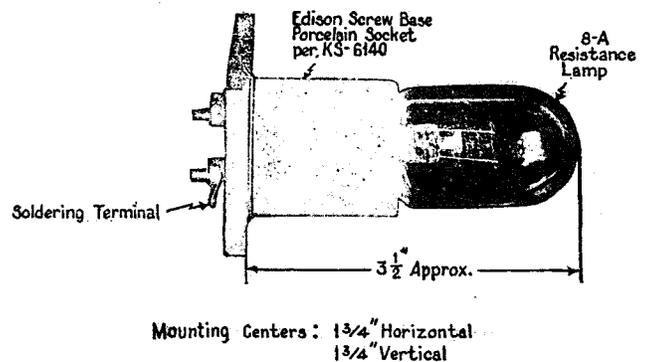

Fig. 1.
- 2.3 The 8-A resistance lamp is of the tubular type and it mounts in an Edison screw-base porcelain socket as shown in Fig. 1. The lamp has a tungsten filament with the current-resistance characteristics shown in Drawing 38-Y-2503. With a current of approximately 0.150 ampere which will be obtained on a conductor loop resistance of about 100 ohms, the filament re-